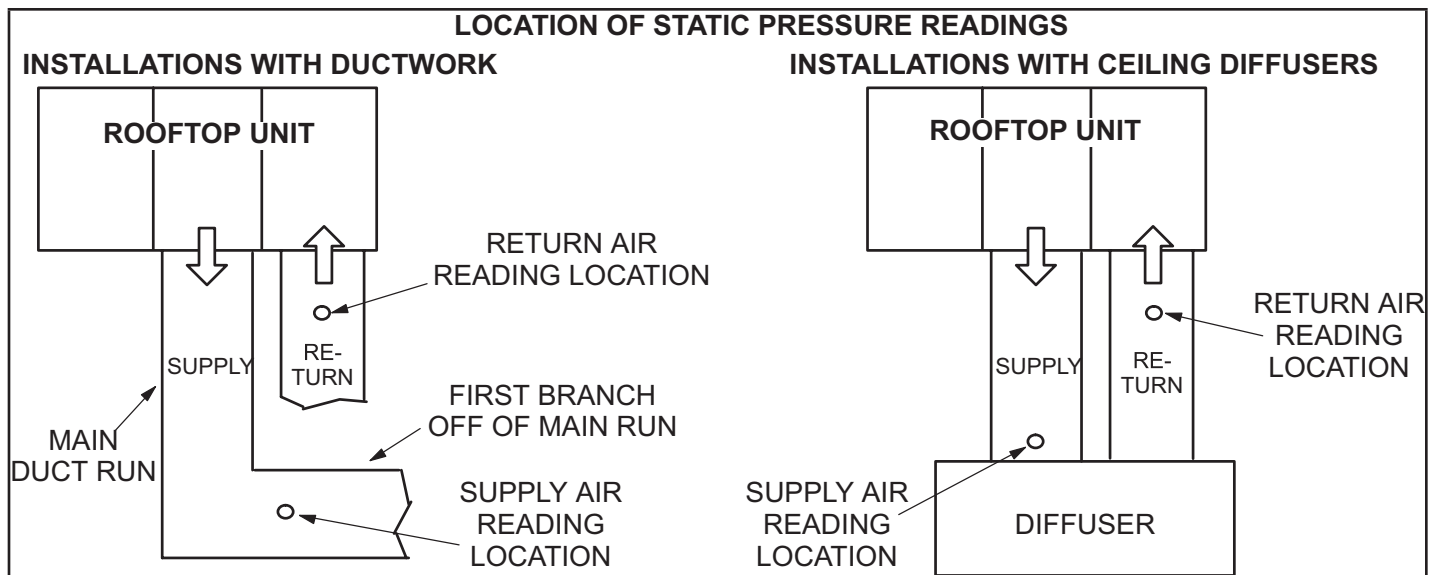

FIGURE 12
- 4 - With all access panels in place, measure static pressure external to unit (from supply to return). Blower performance data is based on static pressure readings taken in locations shown in FIGURE 12.